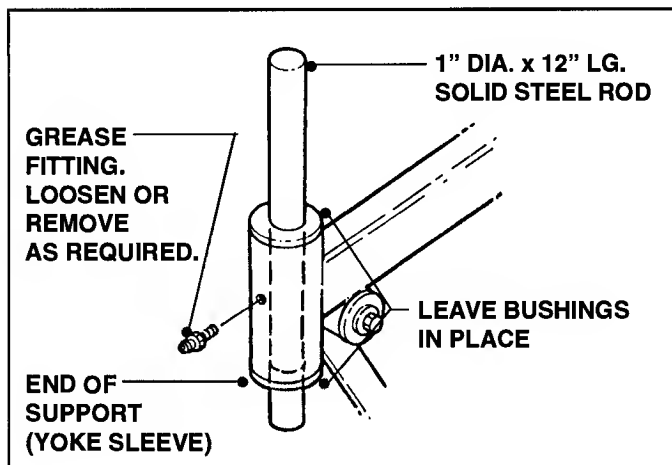

FIGURE 3.7
- Leave upper and lower caster bushings in place and insert a 1" diameter x 12" long solid steel rod thru the end of the support. See Figure 3.7.
Before inserting the steel rod through the end of the support, check inside to make sure that the grease fitting is not in the way. If it is, loosen or remove the fitting. Refer to Figure 3.7.